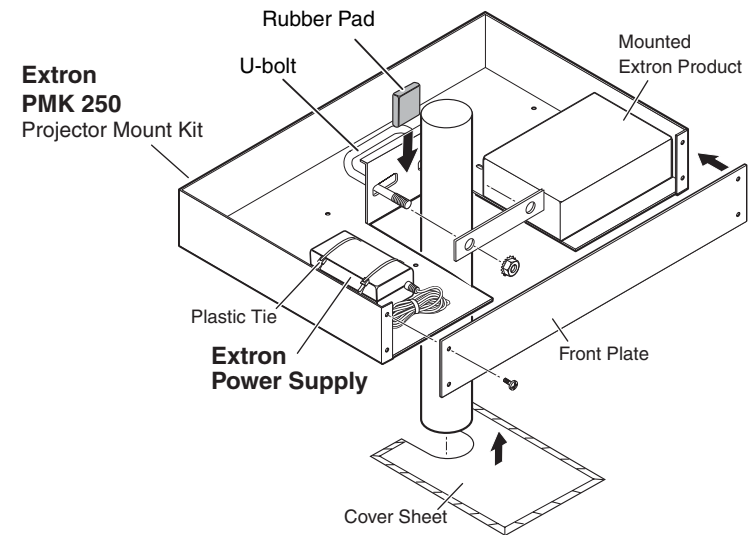

Figure 2-8 — Projector-mounting the YCS SW2 using the PMK 250 Projector Mount Kit
- Remove the protective backing from the self-adhesive rubber pad, and place the pad on the PMK 250 mount plate, centering it between the two holes (see figure 2-8).
- Place the bracket around the projector ceiling mounting pole as shown in figure 2-8.